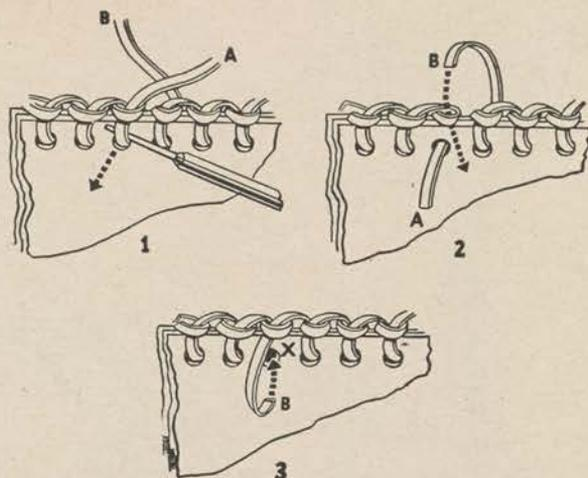

Figure 44.
Then turn the work around so that the back piece of leather is facing you (fig. 44). First pull the end (A) out of its loop. Second, pass the other end (B) down through the same loop. Third, pull the end (A) back through the hole (X) so that it hangs down between the two pieces of leather. The end (B) is then passed through the same hole and both ends are cemented in place between the sheets of leather.